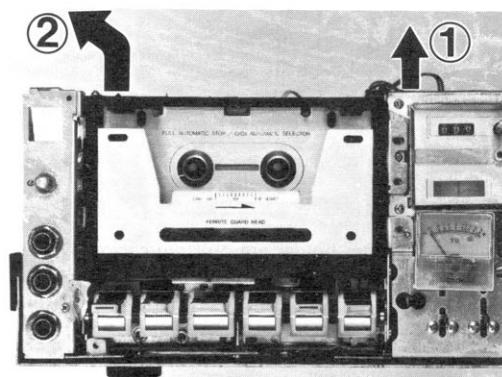

Fig. 31
- 6) Lift up the front chassis in the direction of arrow 1 and lift up the mechanism block in the direction of arrow 2. (Refer to Fig. 31)